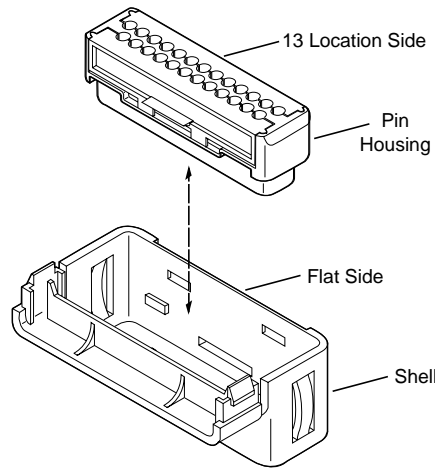

Figure 24
3. Using thumb pressure from the bottom of the shell, push the pin housing up and out of the shell (See Figure 24).